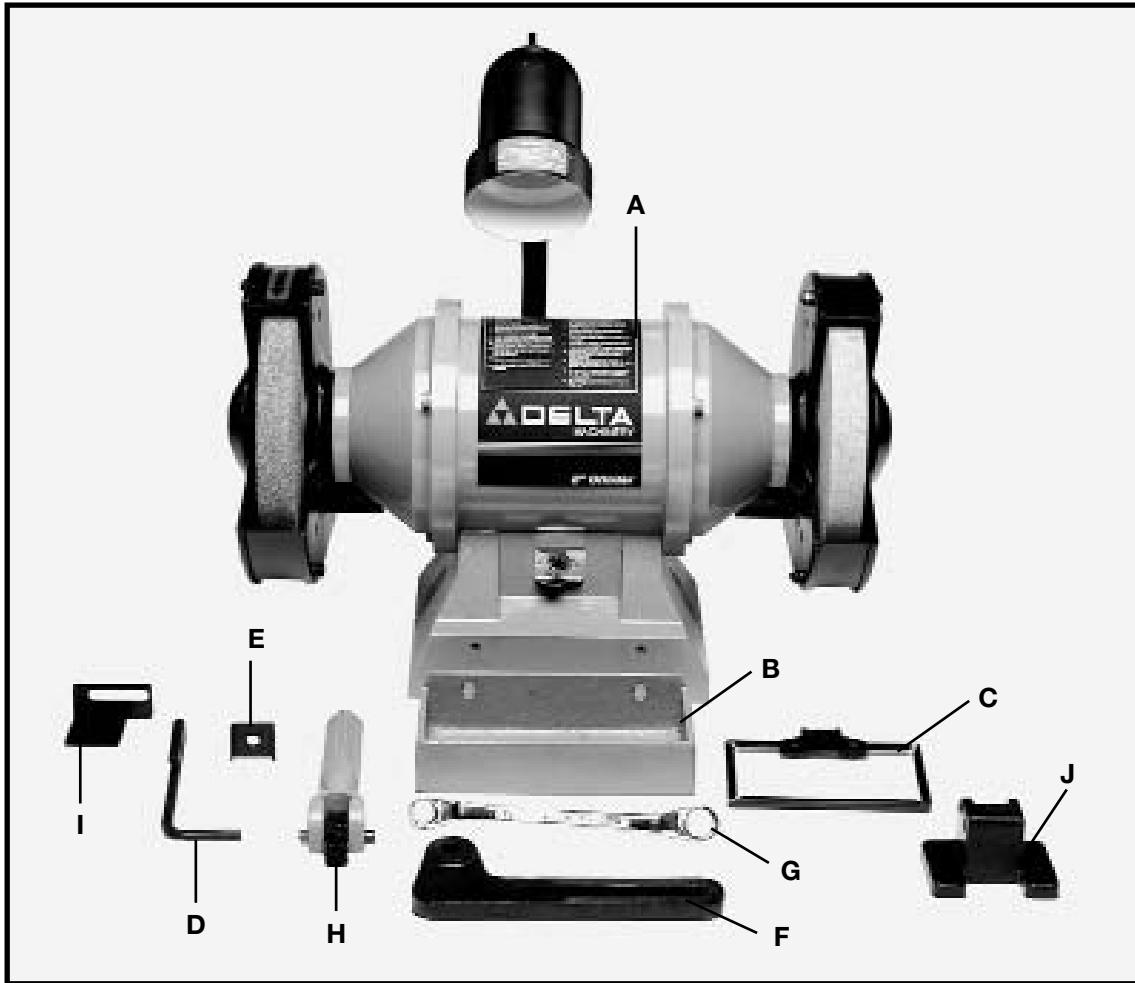
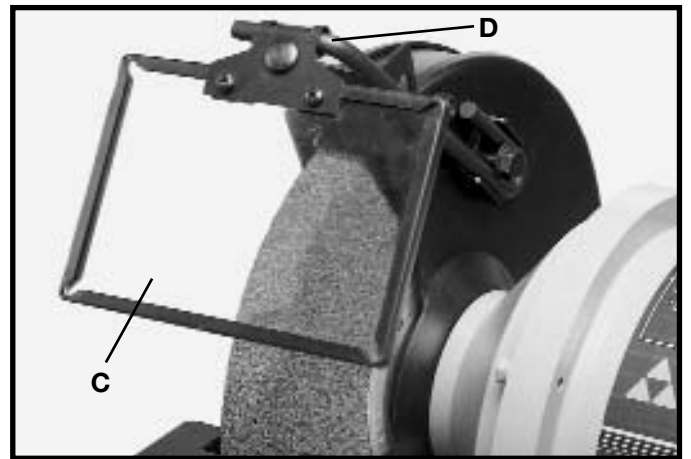

Fig. 1
Fig. 7
Fig. 1 illustrates the components of the grinder.
1. Assemble long end of eye shield mounting rod (D) Fig. 1, to the side of each wheel guard using the eye shield rod bracket (E) Fig. 1, and screw (3) Fig. 2, and washer (8) Fig. 2. **Note:** The mounting rod should be positioned so that the "L" shaped end of the mounting rod is pointing outward, away from the machine. Fig. 7.
2. Insert the "L" shaped end of mounting rod (D) Fig. 7, into hole of frame (C) Fig. 7 and fasten in place with screw (6) Fig. 2, one washer (9) Fig. 2, and one nut (10) Fig. 2. The eye shield (C) is fully adjustable so it can be put in any position by moving the shield (C) or loosening screw (3) Fig. 2 and repositioning rod (D).